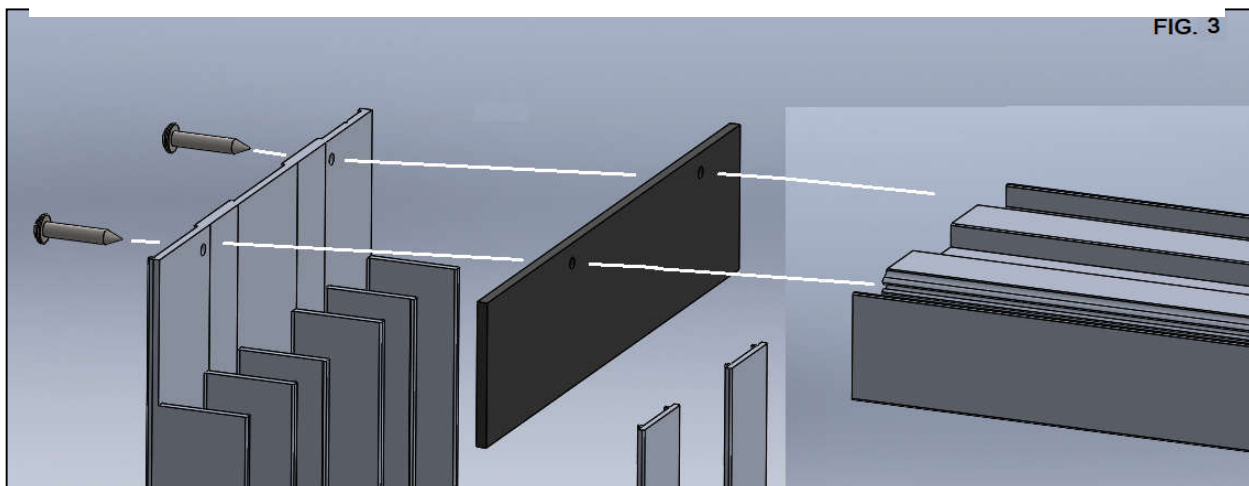

Figure 3
14) After installation screws are sealed and inspected, install all anchor covers. (See Figures 3, 6 & 7)